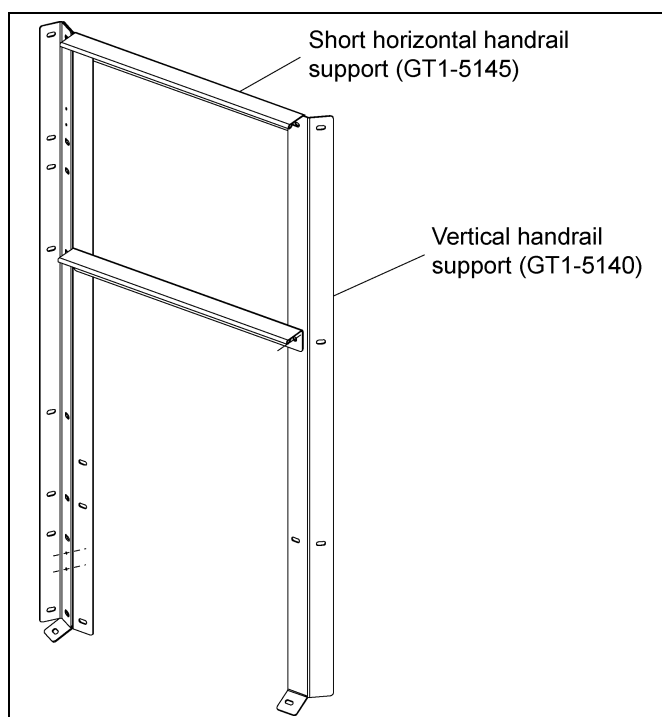

Figure 3D
3. Assemble vertical handrail support (GT1-5140), short horizontal handrail support (GT1-5145) using 5/16" hardware. (See Figure 3D.)